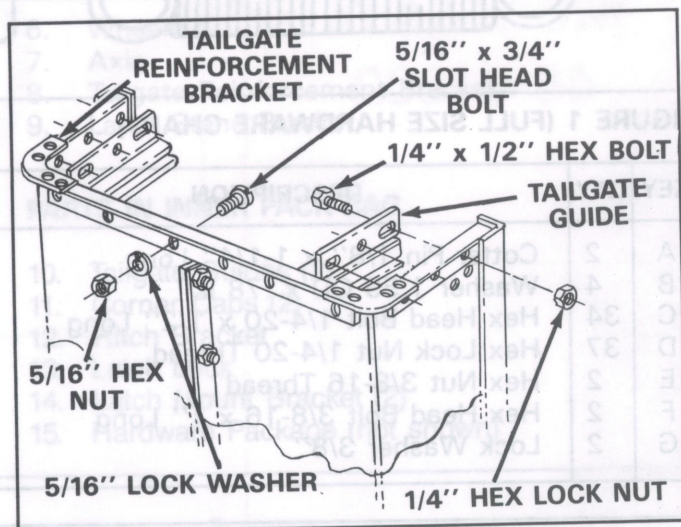

FIGURE 4
6. Position the tailgate reinforcement bracket over end of cart. See figure 4.
7. Start six 5/16" x 3/4" slotted screws through bottom of cart and reinforcement bracket (heads of screws to the inside of cart). Secure finger tight with 5/16" hex nuts and 5/16" lock washers. See figure 4.
8. Position the tailgate guides so that the holes line up with reinforcement bracket and cart body. Refer to tailgate guide detail in figure 4.
9. Secure tailgate guides with six 1/4" x 1/2" hex bolts and 1/4" hex lock nuts. See figure 4. Tighten only the bolts assembled in steps 7 and 8 at this time. Do not tighten others.